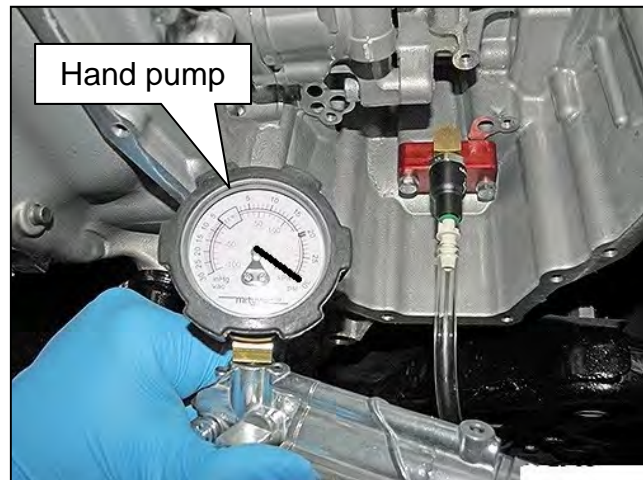

Figure 31
- b. Connect the hand pump from Evap Pressure Test Kit (J-42909) to the Clutch Engagement Tool (J-52273) and pump to 30 PSI (Figure 31).
- Proper pressure has been achieved when the CVT belt moves while the driver side (LH) front wheel is rotated and the CVT is in NEUTRAL with the passenger side (RH) front wheel secured.